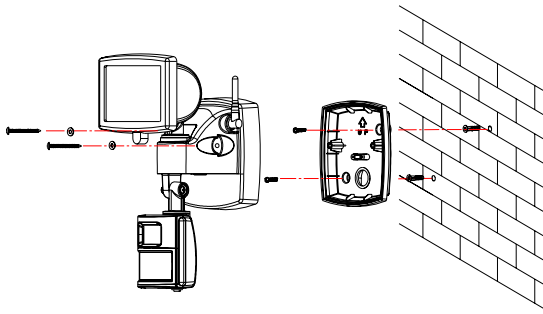

FIGURE 13
- (5) Place the wiring box to the backplate using screws provided. (FIGURE 13)